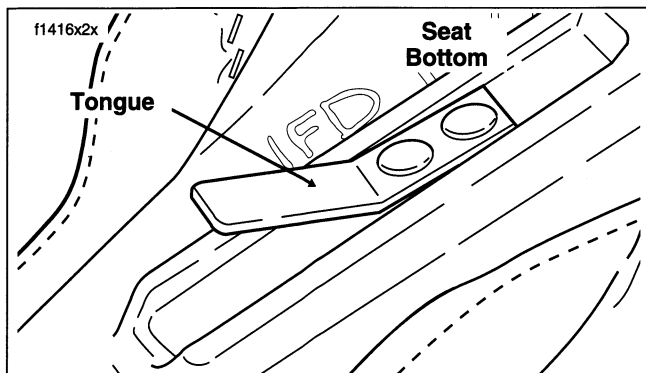
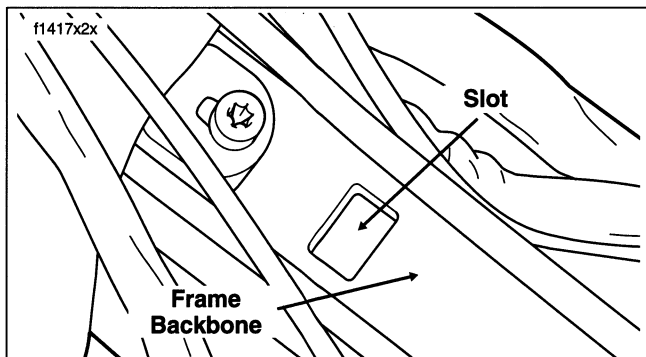

Figure 84. Seat Mounting Tongue
Figure 85. Seat Mounting Slot
4. See Figure 84. and Figure 85. Push seat rearward to free tongue at front of seat from slot in frame backbone.
1. See Figure 85. Place seat on frame backbone.
2. See Figure 84. Firmly push front of seat downward and rearward until tongue engages slot in frame backbone.